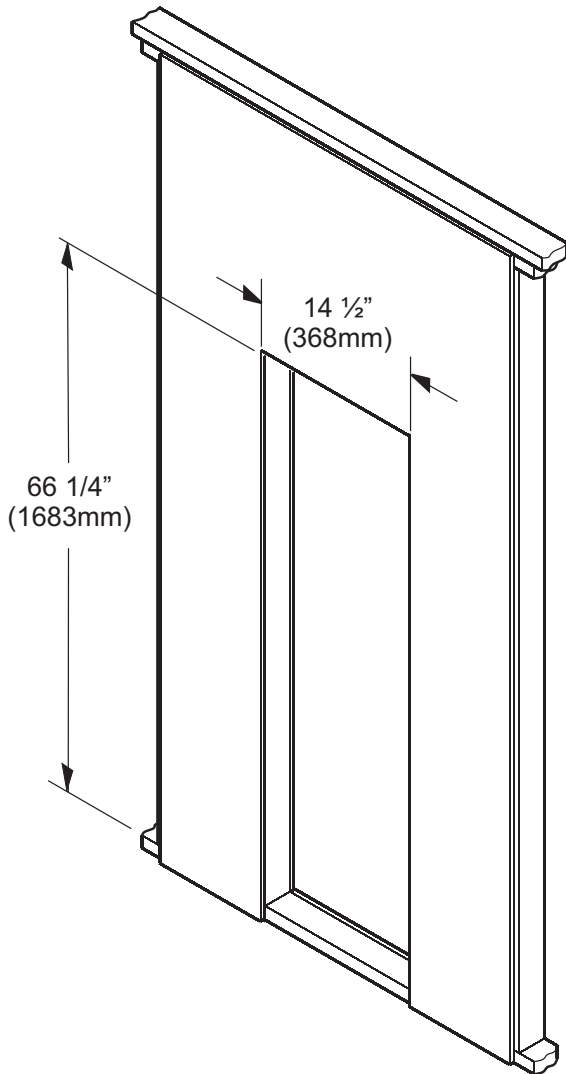
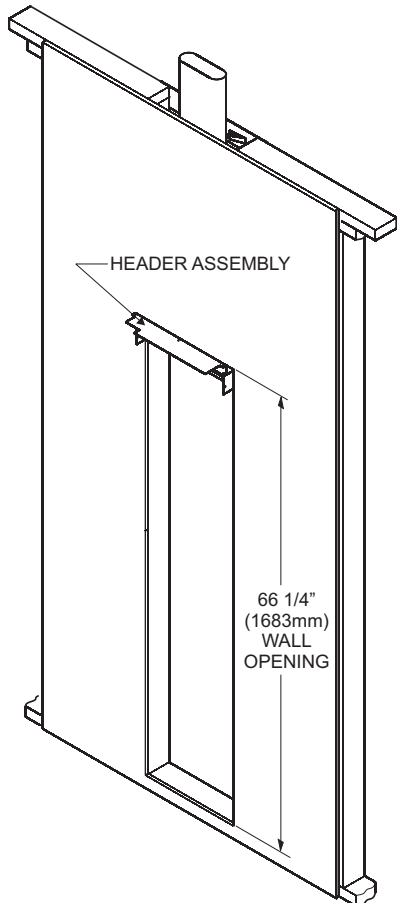

Figure 14
Figure 19
1. Provide an opening in the wall 14 1/2" (368 mm) wide and 66 1/4" (1683 mm) high measured from top of floor plate (See Figure 14 and Figure 19). Wall depth is to be 2" x 4" framing with 1/4" (6.5 mm) to 5/8" (16 mm) sheeting.
Plastering (Figure 19)